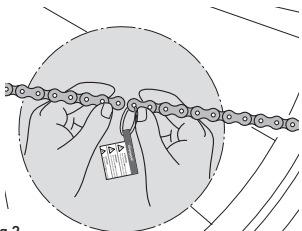

Fig.2
**IMPORTANT!** Perform all of the following operations and remove extra links from the side of the chain opposite the external link, which is identified by the plastic clamp and the adhesive "WARNING!" label (Fig. 2).